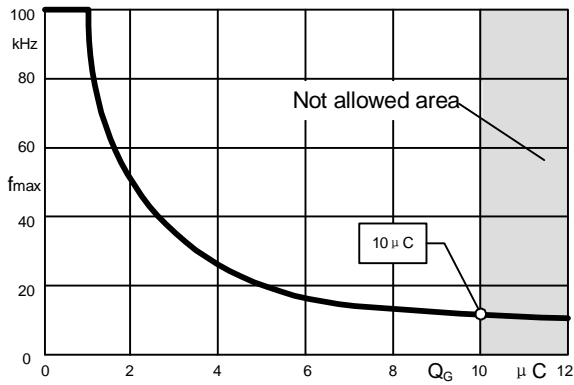

Fig.6 Relationship between maximum operating frequency and charge per pulse
- 6).Fig.6 shows the relationship between maximum operating frequency and charge per pulse